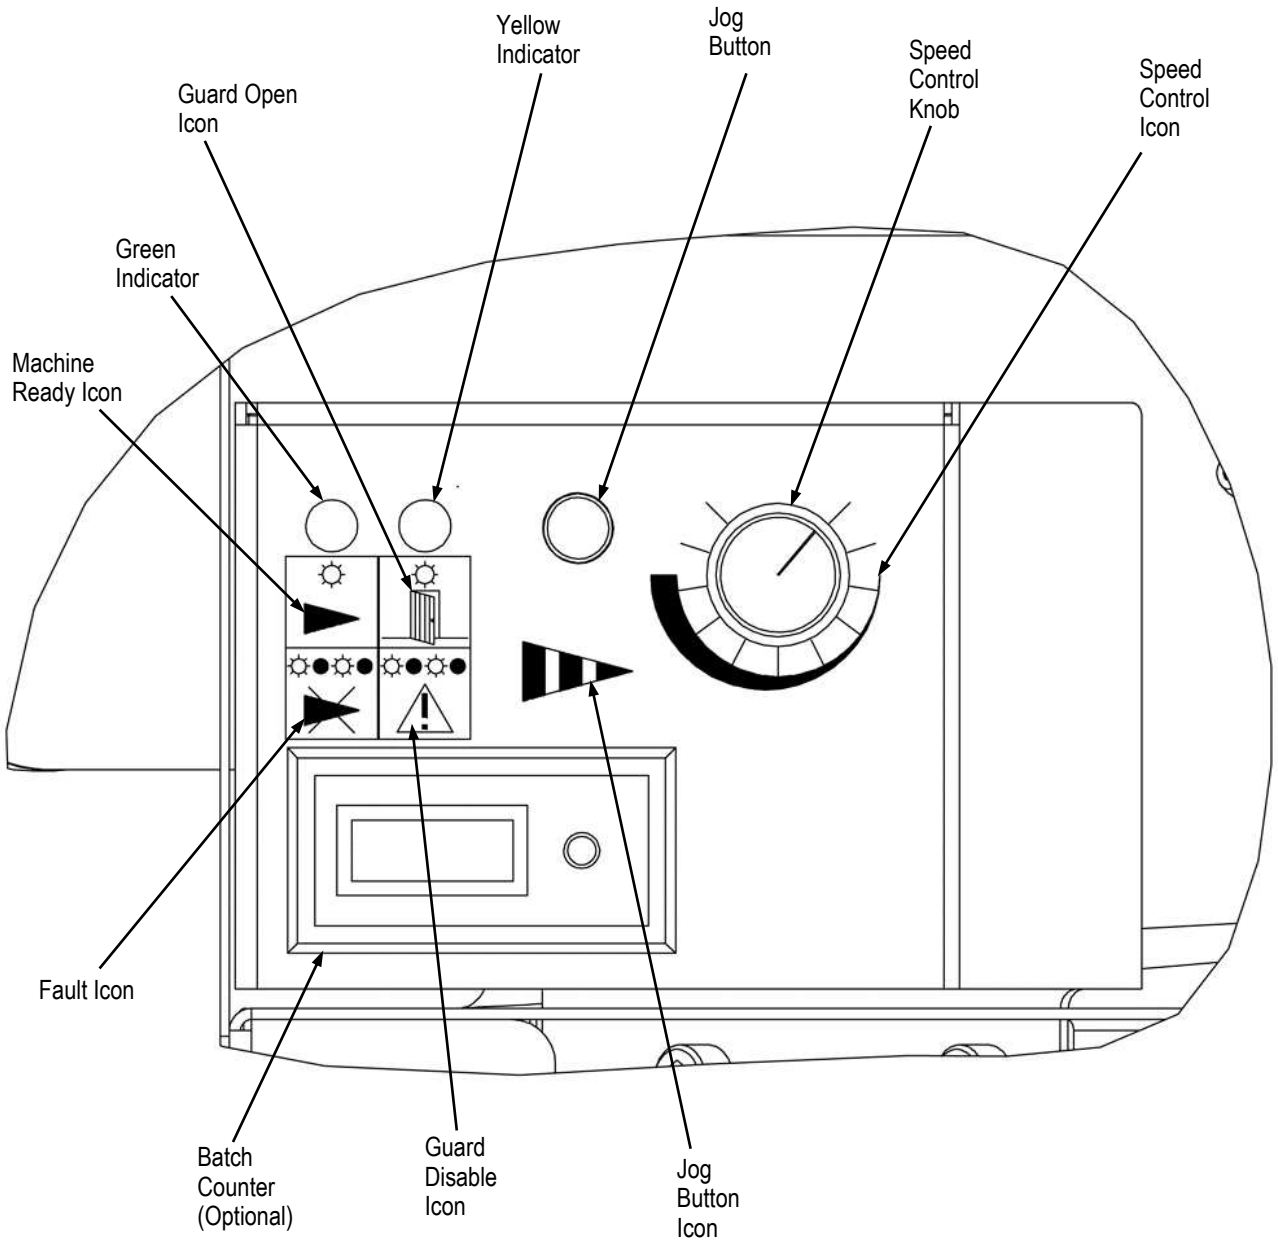

Figure 5
The operator control panel (Figure 5) is mounted on the left side of the machine frame. The control panel consists of two indicator lights, one jog button, and one speed control knob, with icons depicting each function. See Figure 9 for control panel operation.
1. Loosen the quick-release T-handle (see Figure 5) and slide the applicator base clamp down.